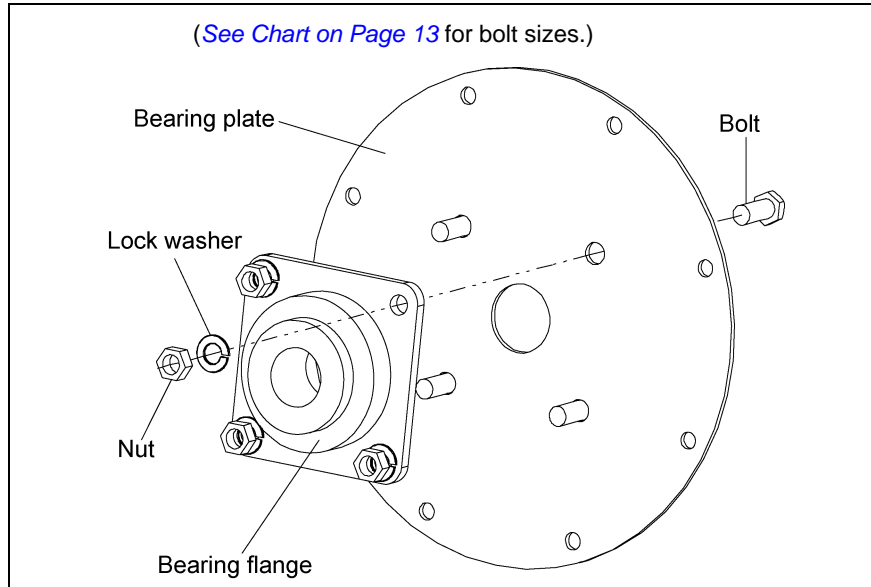

Figure 4B
2. Secure bearing to bearing plate using appropriate bolts, lock washers, and nuts. (See Chart below and Figure 4B on Page 14.)